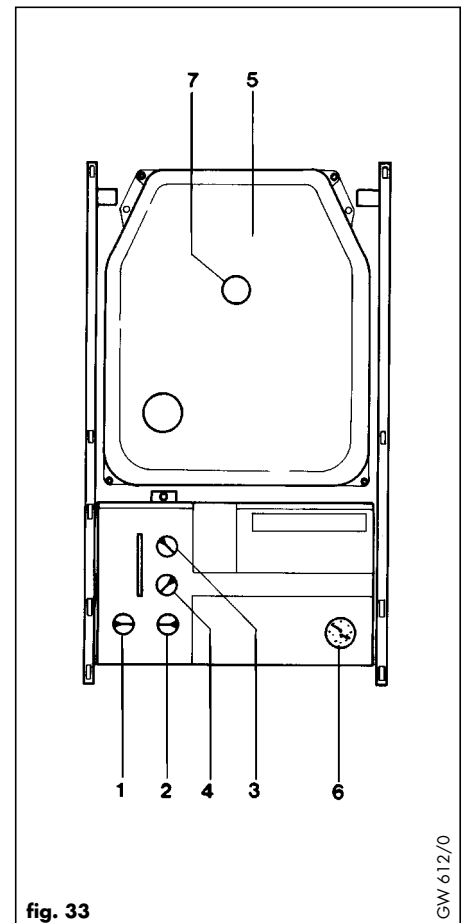

fig. 33
- Check that the boiler combustion chamber (5, fig. 33) is correctly fitted.
- Set both the maximum hot water temperature control (4, fig. 33) and maximum radiator temperature control (3, fig. 33) to '9'.
- Turn the boiler on/off control (1, fig. 33) to the "on" position (I).
- Set the boiler central heating control (2, fig. 33) to the 'Heating and Hot Water' position (III ☰ ☱).
Operate the boiler and turn off the gas supply at the boiler gas service valve. The boiler should attempt to re-light (sparking at ignition electrode visible through viewing window) for approximately 10 seconds before shutting down. The lock out indicator light will illuminate. Open the gas service valve and turn the central heating control (2, fig. 33) to the reset position (⏪). The boiler should now re-light.
Refill the system and release all air as described in Section 5.4. Release water from the system until the system design pressure of 1.2 bar is attained. (The actual reading on the pressure gauge - (6, fig. 33) - should ideally be 0.5 Bar plus an additional pressure corresponding to the highest point of the system above the base of the boiler - 10 m head equals an additional 1 Bar reading on the pressure gauge. The minimum pressure should not be less than 1 Bar in any installation).